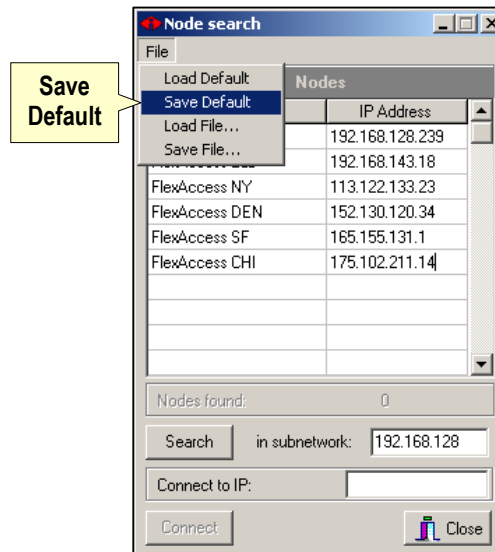

Figure 15 – ‘Save Default’ node list
- 5 When your list is complete (for now, at least; you can revise it later), click on **File** and select **Save Default** (Figure 15).